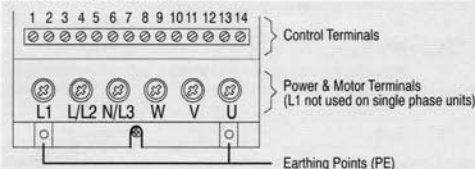

Fig. 2: Power and Control Terminals
Machines with a three phase power supply must not be connected to a supply via an ELCB (Earth Leakage Circuit-Breaker – see DIN VDE 0160, section 6.5). The power and motor terminals (see Fig. 2) can carry dangerous voltages even if the inverter is inoperative.
- Use screened or armoured cables for the power connections and ground the screen at the earthing points on the inverter (see Fig. 2).